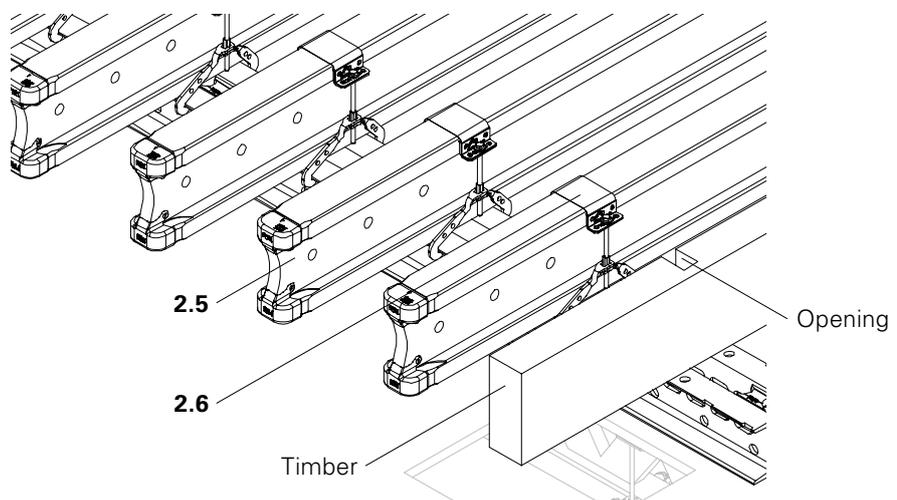

Fig. A3.02a
2. Mount Girder VT 20K (2.5) with 2x Hook Strap HBU (2.6) in each case. (Fig. A3.02a)